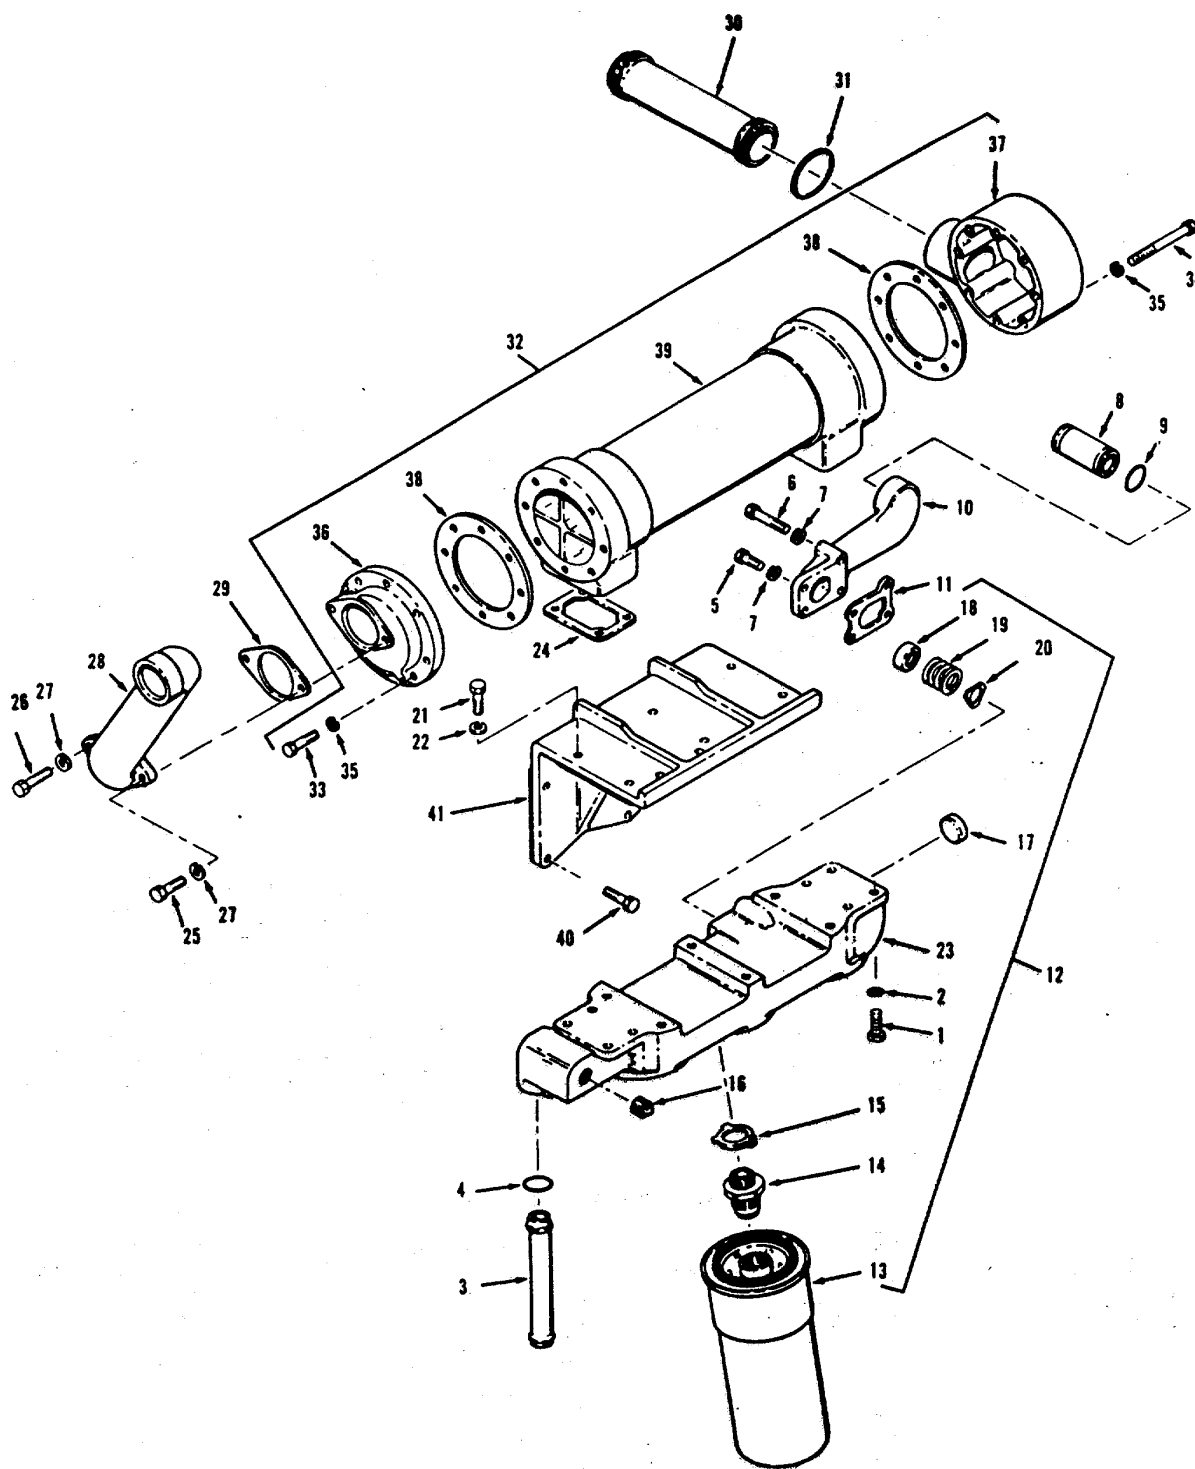

Figure 13-14. Lubricating Oil Cooler, Exploded View, Code A
13-11. LUBRICATING OIL COOLER. To test and repair the lubricating oil cooler, refer to figure 13-14 and 13-15 and proceed as follows:
- (4) Inspect for air leaks and porosity in castings.
- (5) Apply 35 to 45 psi (241 to 176 kPa) to oil side.
- (6) Inspect for air leaks and porosity in castings.
- b. Repair and Reassembly. To repair the lubricating oil cooler, refer to figure 13-14, and proceed as follows:
- (1) Remove screws (33), cover (36), and gasket (38). Then remove screws (26), washer (27), screw (25), connection (28) and gasket (29).
13-12. BYPASS VALVE. To inspect, test, replace, and repair the lubricating oil filter bypass (relief) valve, refer to figure 13-14, and proceed as follows:
- (1) Drain the engine oil and remove the oil filters (13) in accordance with the Operator/Crew and Organizational Maintenance manual.
- (2) Remove oil transfer tube (3) and discard O-ring (4).
- (3) Remove capscrews (1) and washers (2).
- (4) Remove capscrews (5), capscrews (6), and washers (7); discard gasket (11).
**LEGEND FOR FIGURE 13-14**